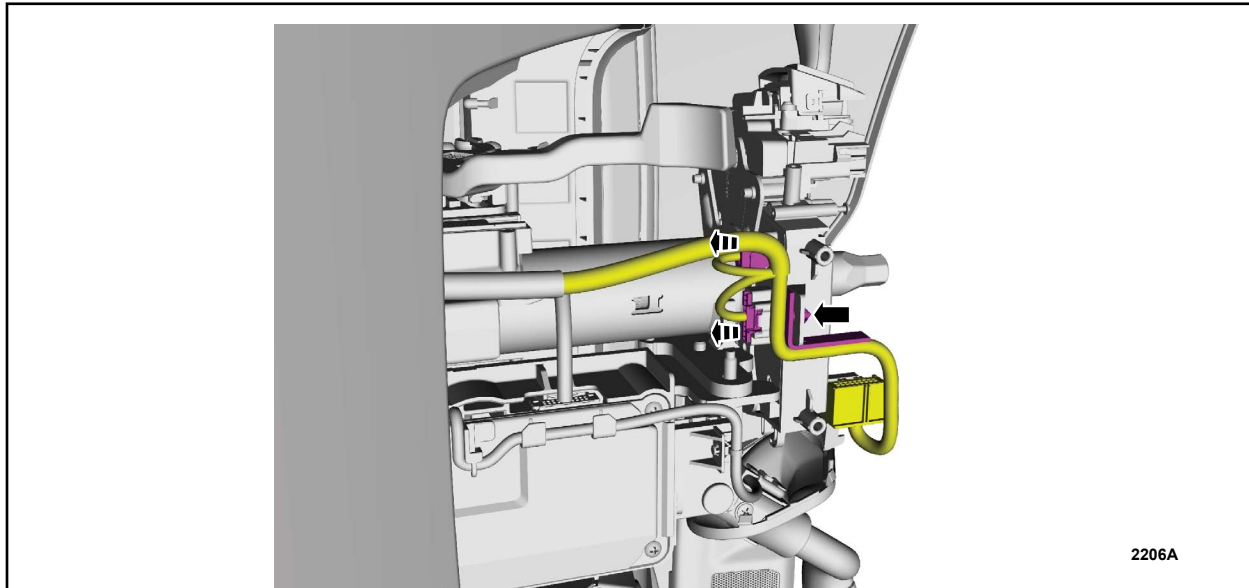

FIGURE 13
6. Disconnect the SCCM electrical connectors, unclip the pin type retainer and position the harness aside. See Figure 13.